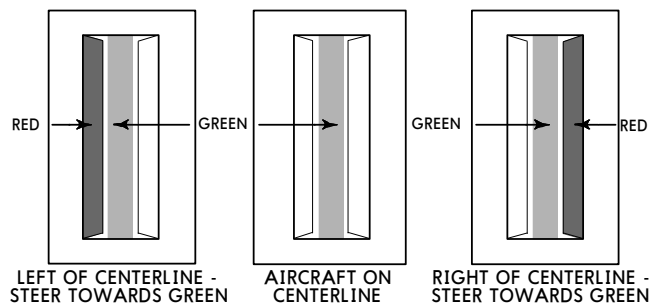

Figure 1
The bottom of the enclosure housing contains three (3) neon tubes; a green tube flanked by a red tube on each side. The green tube is encased in baffles, and the red tubes are behind flanges so as not to be visible from straight-on. When the pilot is taxiing in and can see only the green tube, the aircraft is within three inches of the taxi guidance centerline. If a line of red is visible on either side, the aircraft is off-line in that direction (see Figure 1).
Azimuth Guidance - Line up so that the green vertical azimuth tube on the bottom part of the housing is visible. If a line of red can be seen on either side of the green, the aircraft is off centerline in that direction (see Figure 1).